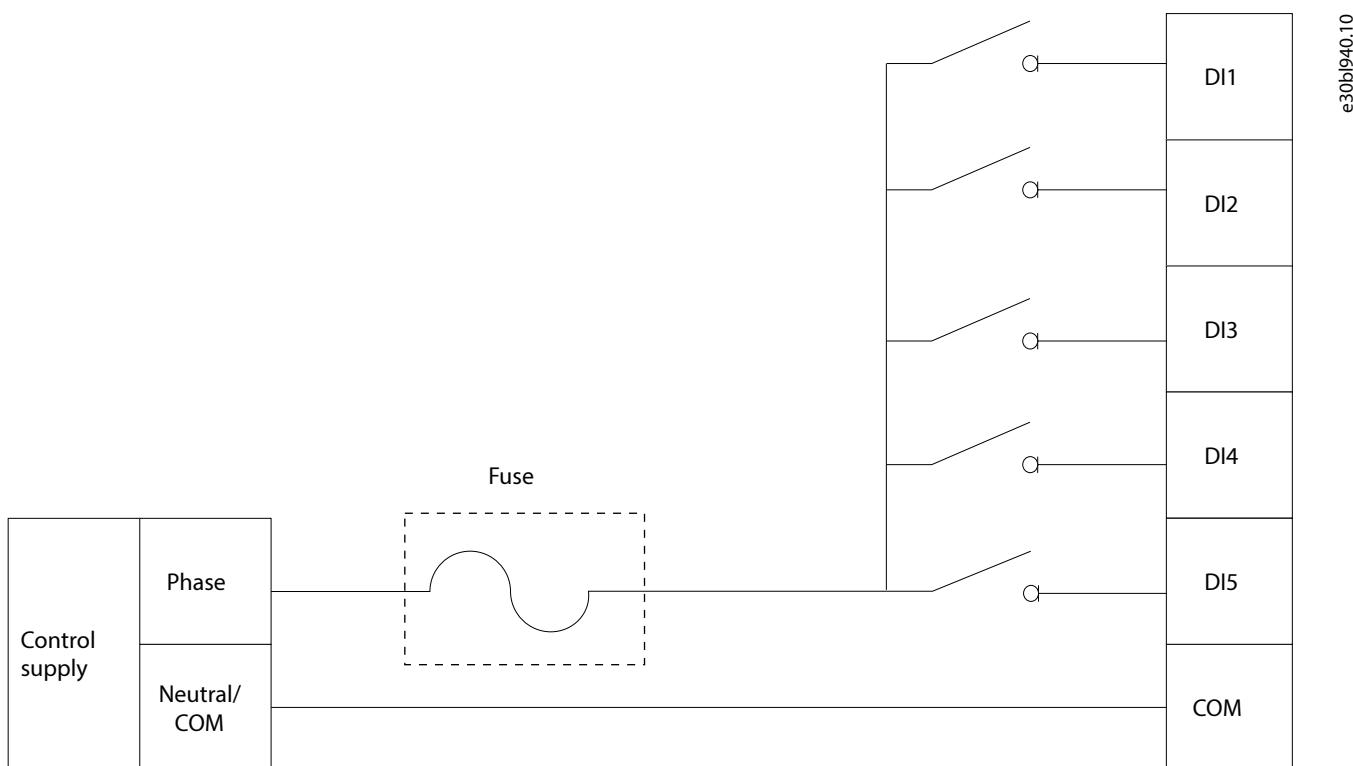

Figure 56: Wiring Configuration for Operation up to 2000 m (6560 ft) Altitude
- Operation up to 2000 m (6560 ft) altitude: All 5 digital inputs can be used, and the same phase must be used for all inputs. See Figure 56.